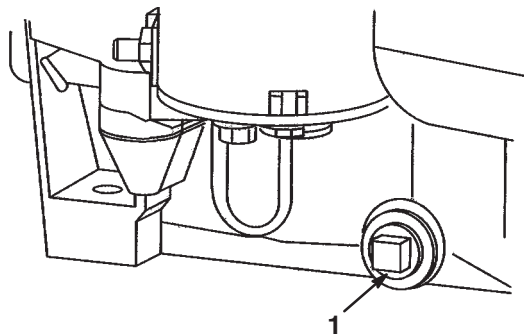

Figure 19
8. Place a drain pan below the oil dipstick/fill tube and remove the drain plug (Fig. 19).